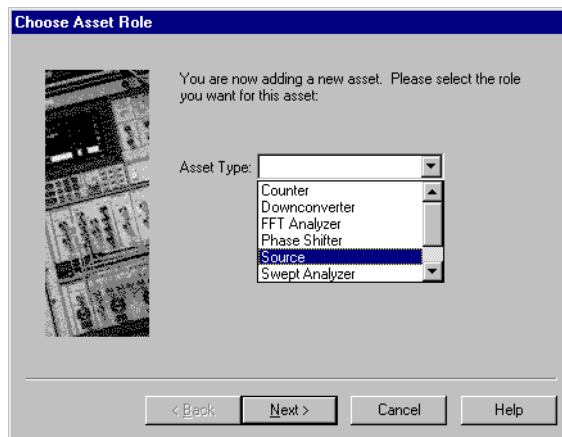

Figure 5-4 Select Source as Asset Type
- 6 From the **Asset Type** pull-down list in **Choose Asset Role** dialog box (Figure 5-4), select **Source**, then click the **Next** button.